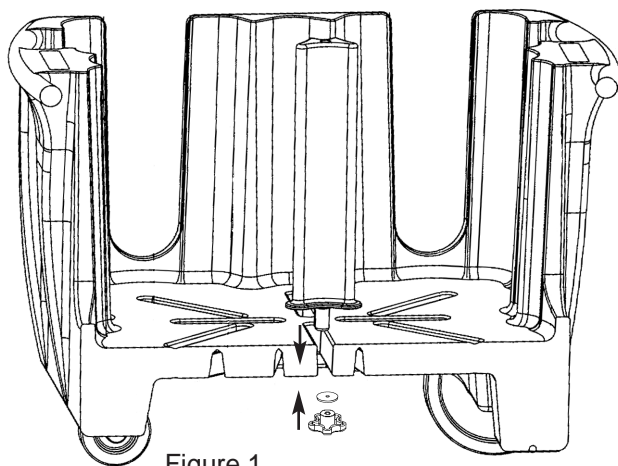
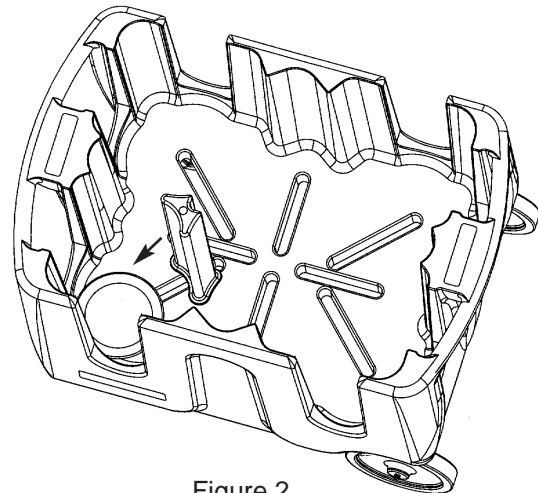

Figure 1
Figure 2
1. Following the layout for the size of plate/platter that you are using (see the back of this page), place a divider (with the bolt on the bottom) into one of the slots (see Figure 1). In order to secure the plates/platters properly, make sure the divider is facing the correct way shown in the layout (see other side).
2. Place a single plate/platter between the divider and the wall of the dish dolly (see Figure 2).
3. Reaching under the cart, place a washer and knob onto the divider bolt and twist a few turns (see Figure 1). While pushing the bottom of the divider lightly against the plate/platter, turn the knob until the divider is tight (see Figure 2).